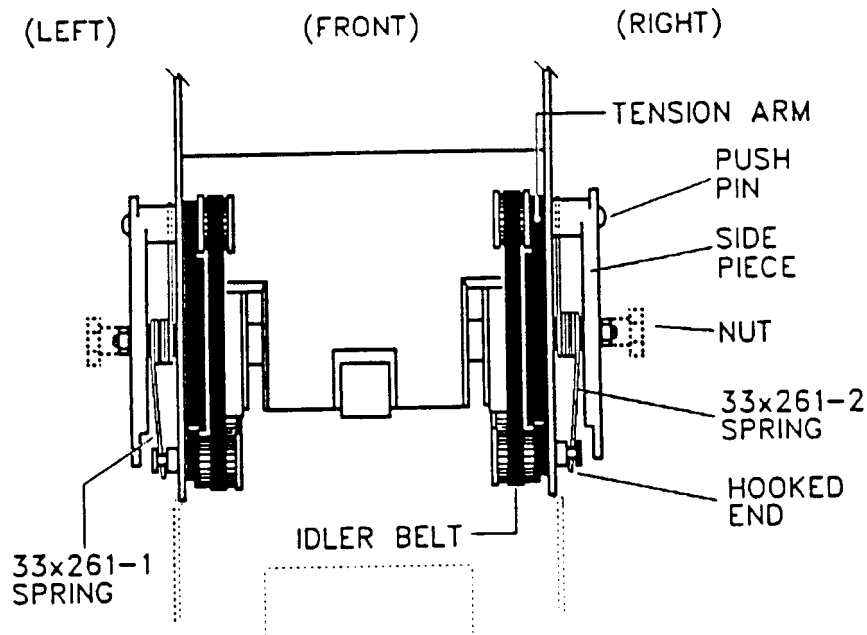

Figure 2. Tension Levers
5. Inspect the tension arm assembly on each side of the acceptor to familiarize yourself with the parts called out in Figure 2.
6. Pull the push-pin fastener straight out of the acceptor side piece (Figure 2).
12. Reassemble the side piece using a new spring, as shown in Figures 2 and 3. Make sure the spring is positioned as shown. Reinstall and tighten the nut.
16. Move the hooked end of the spring back and over the pin on the free end of the tension lever. The spring should rest between the shoulders on the pin. When both springs have been replaced, the acceptor should resemble Figure 2. The hooked end of each spring should be toward the outside.